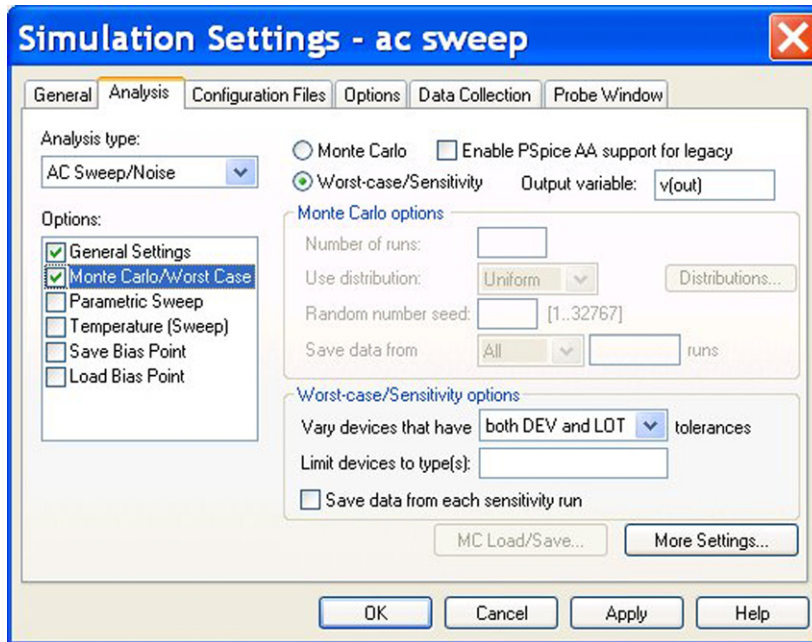

FIGURE 11.8
- In the simulation profile, in **Options** select **Monte Carlo/Worst Case** and enter **V(out)** for the **Output variable** (**Figure 11.8**). Click on **Apply** but do not exit.